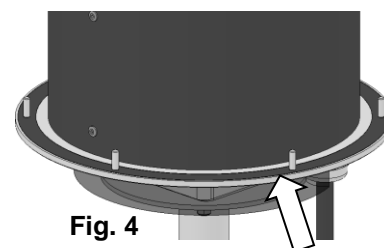

Fig. 4
- ⇒ Inspect South Pole Plate gasket (Fig. 4) for damage, reset on plate prior to new envelope installation.